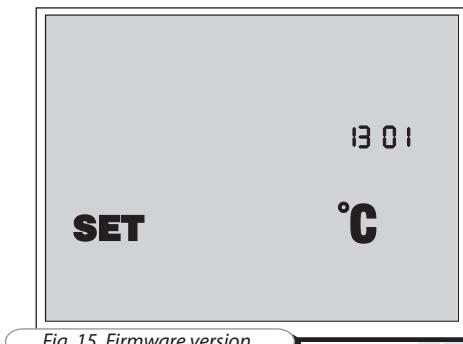

Fig. 15. Firmware version
- Press the button \odot to display the controller board code and firmware version code on the wall-mounted control panel, fig. 15.